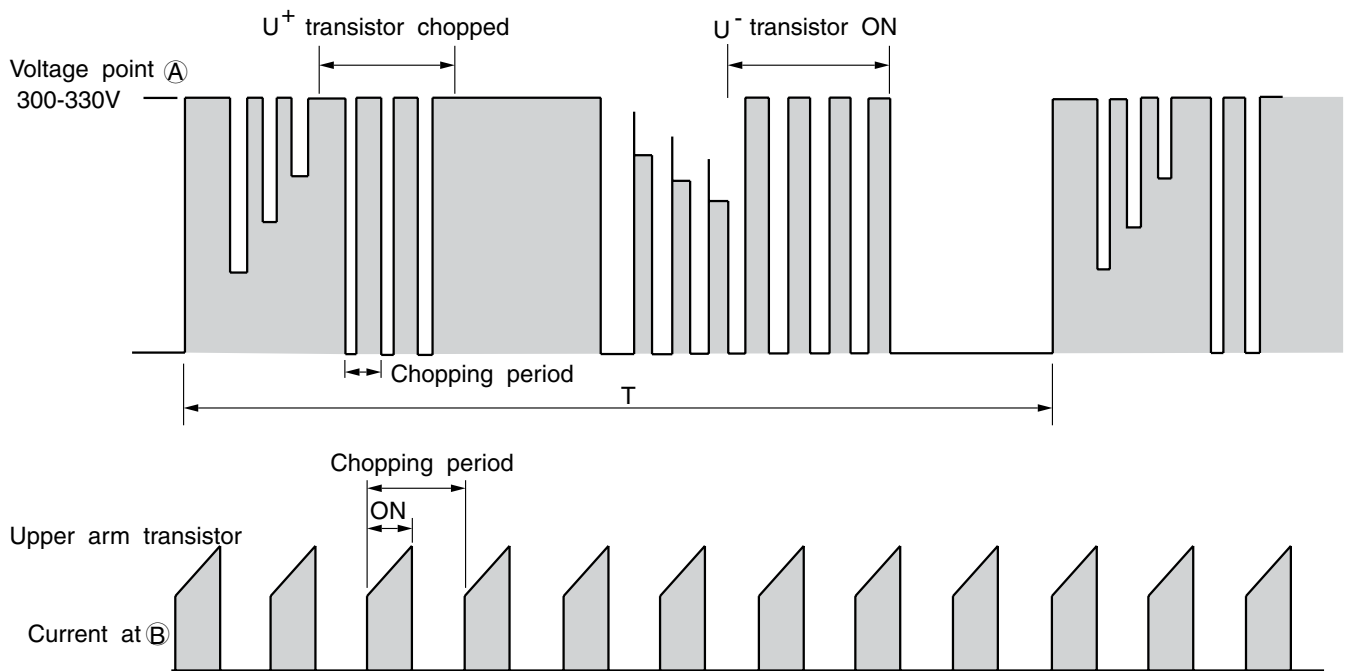

Fig. 3-3 Voltage waveform at each point
- Fig. 3-3 shows voltage / current waveform at each point shown in Fig. 3-1 and 3-4. First half of upper arm is chopper, second half is ON, and first half of lower arm is chopper, second half is ON.